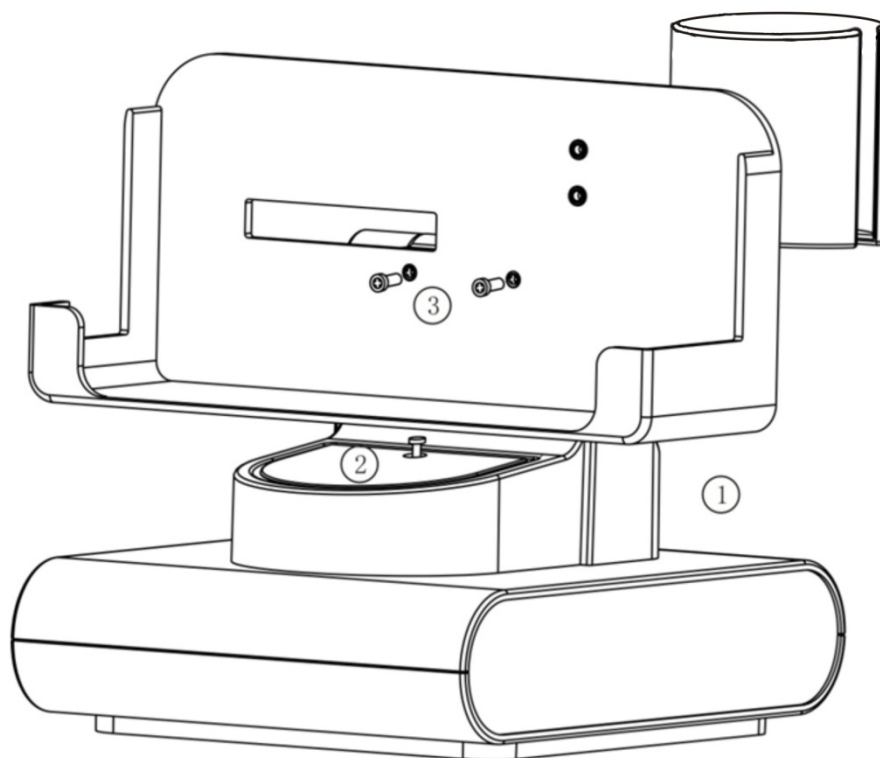

Figure 4-1 PadScan HD3 docking station and main unit connection diagram
- Connect the main unit to the docking station. Align the socket on the bottom of the main unit with the docking station and place it into the docking station. See the following diagram as figure 4-1: